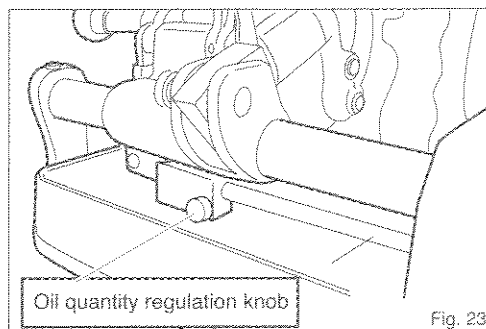

Fig. 23
12. Regulating the Flow of Cutting Oil (Fig. 23)